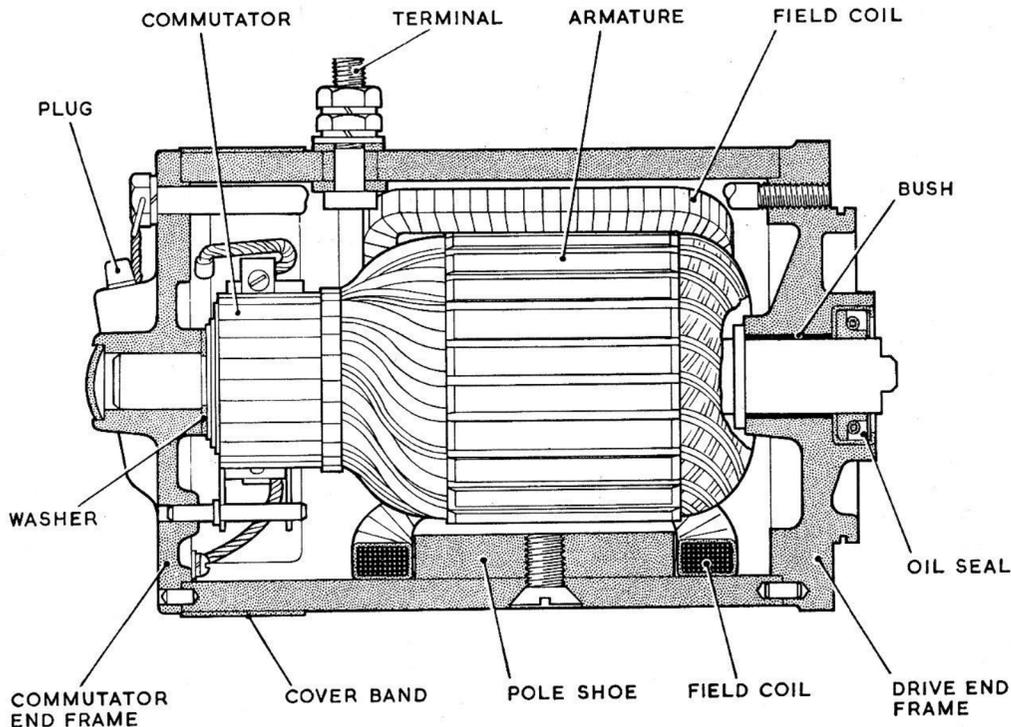
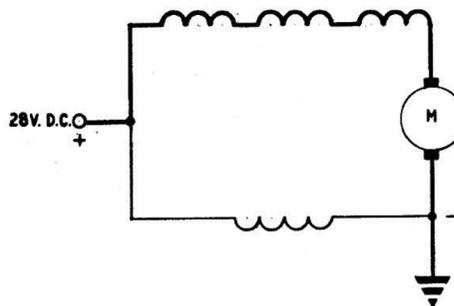

Fig. 1. Sectional view
Fig. 2. Circuit diagram
3. The drive end frame also incorporates an O-ring and conventional lip-type seal to prevent ingress of oil mist from the crankcase when in use. The lip seal is pressed into the drive end bracket with the lip of the seal bearing on the armature shaft. A sectioned view is given in fig. 1, and a circuit diagram in fig. 2.